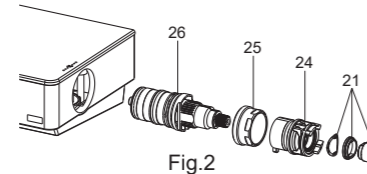

Fig.2
取下齿套组件(21)，接着将螺母(25)和塑料套(24)卸下。小心地卸下温控阀(26)。用热醋进行清洗(Fig.2)。
Remove the adapter spline kit(21), unscrew the nut(25) and stopper(24). Remove the cartridge (26) cautiously. Clean the cartridge by soaking it in warm vinegar(Fig.2).